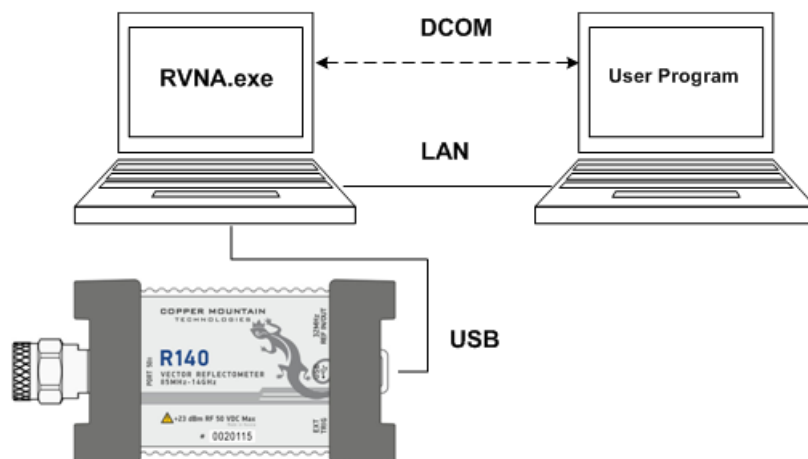

Figure 2. DCOM technology
*Remote server* and the automation controller run on different PCs connected by LAN. DCOM (Distributed COM) technology is used in this case (Figure 2). When using DCOM it is necessary to configure the local network by means of DCOM Windows tools.